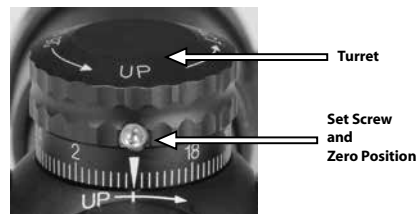

Figure 1
3. With the turrets in the “0” position, apply downward pressure on the turret and tighten the set screw to 5 inch pounds. See Figures 1 and 2.
2. Remove the elevation turret by loosening the set screw 1¼ turns and remove it by turning it clockwise and lifting upward. See Figure 1.
3. Loosen the set screw on the elevation ZeroStop™ clutch assembly 1½ turns and reinstall the elevation turret, leaving the ZeroStop™ clutch assembly set screw loose. Tighten the elevation turret set screw to 5 inch pounds. See Figure 3 and Figure 1.